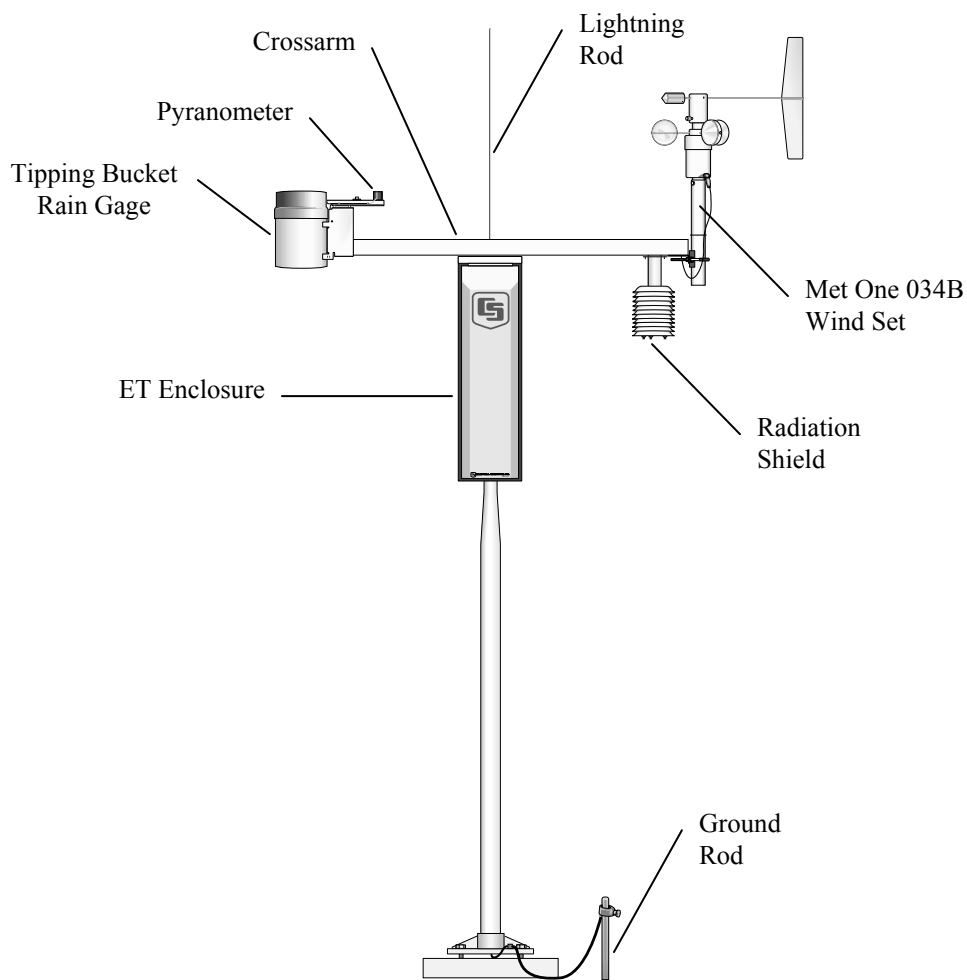

FIGURE 2.3-1. T107 Instrumentation Mounted on the ET Tower
3. Cut and save a 9 inch piece of 12 AWG ground wire from the 12 foot length provided. This will be used later to attach the enclosure ground to the lightning rod assembly (reference Figure 2.3-1).
- (1) T107 Crossarm with Sensors (see Figure 2.3-1)